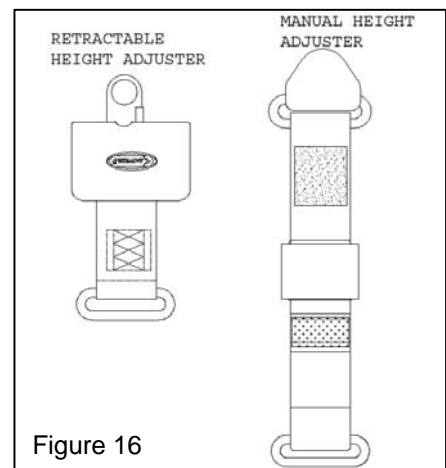

Figure 16
- a. **With Height Adjustor** (Figure 16 shows examples): Mount upper anchorage 61" (1,550mm) or more from the floor